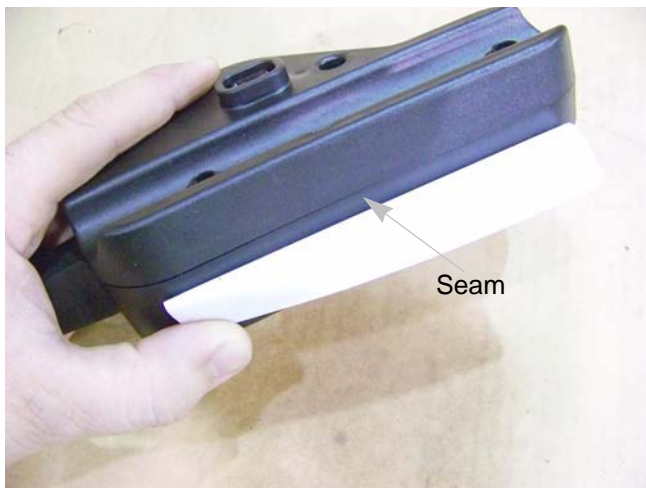

Figure 2.25
4. Carefully peel back the label on the switch box until the housing seam is fully exposed. See Figure 2.25.